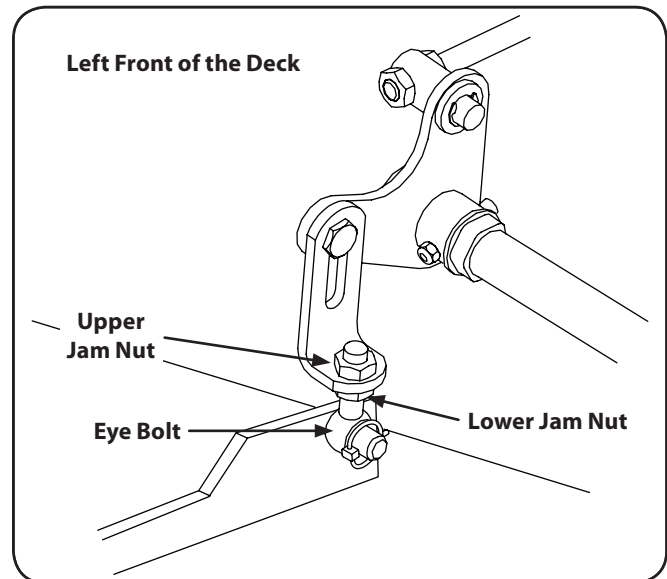

Figure 6-7
4. Adjust the eyebolt at the left front of the deck so that the blade-to-ground height at the right front blade tip matches that of the left front blade tip. This is done by loosening the jam nuts on the eyebolt and tightening the upper nut to raise the deck and loosening the nut to lower the deck. The right front blade tip height is fixed so you must adjust the left front tip to match it. See Fig. 6-7.